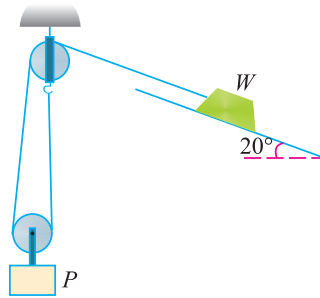

Fig. 16.24.
2. A block of weight ( $W$ ) rests on the smooth surface inclined at  $20^\circ$  with the horizontal. The block is supported by an effort ( $P$ ) hung from a pulley as shown in Fig. 16.24.